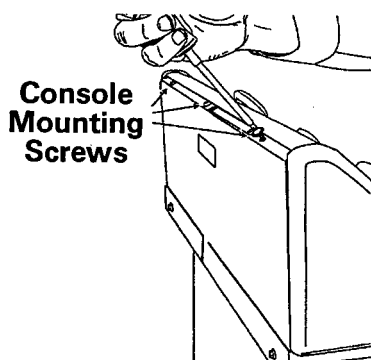

Figure 4-1
2. Remove the three screws securing the console rear cover plate across the rear top edge of the console. (See Figure 4-1)